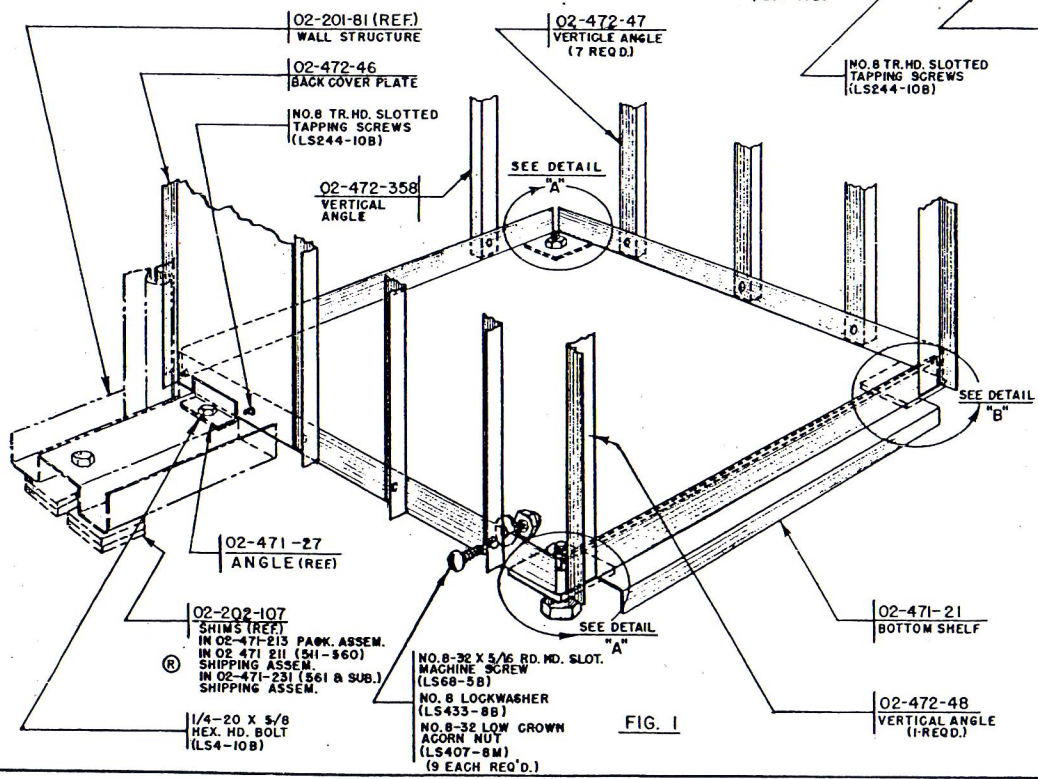

FIG. 1
**STEP 1:** ATTACH BACK COVER PLATE 02-472-46 TO BOTTOM SHELF 02-471-21 USING (2) LS244-10B NO.8 TR.HD.SLOTTED TAPPING SCREWS. BOLT BOTTOM SHELF TO 02-201-81 WALL SECTION USING LS4-10B HEX HEAD BOLT. SEE FIG. 1.
**STEP 3:** ATTACH (6) 02-472-47 VERTICAL ANGLES, (3) ON RIGHT SIDE OF CABINET & (3) ON LEFT SIDE OF CABINET, LINKING TOP & BOTTOM SHELVES. USE LS68-5B MACHINE SCREWS AND LS407-8M LOW CROWN ACORN NUTS AND LS433-8B WASHERS. SEE FIGS. 1 AND 2.
**STEP 5:** INSTALL (2) VERTICAL ANGLES 02-472-358 & 02-472-47, ONE AT REAR OF CABINET AND ONE AT RIGHT FRONT CORNER, AS SHOWN. INSTALL 02-472-48 VERTICAL ANGLE AT FRONT LEFT CORNER OF CABINET. USE LS68-5B MACHINE SCREWS AND LS433 8B LOCKWASHERS AND LS407 8M LOW CROWN ACORN NUTS. FIG. 1.